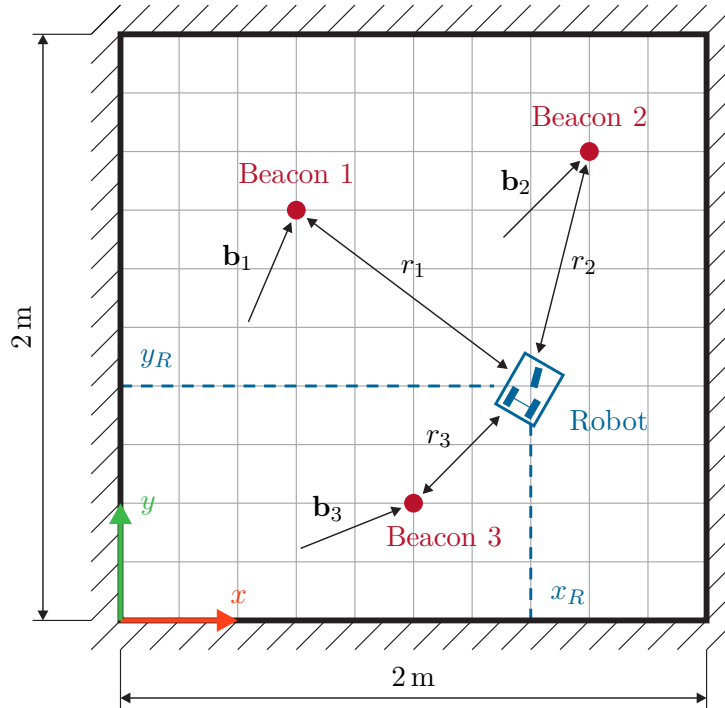
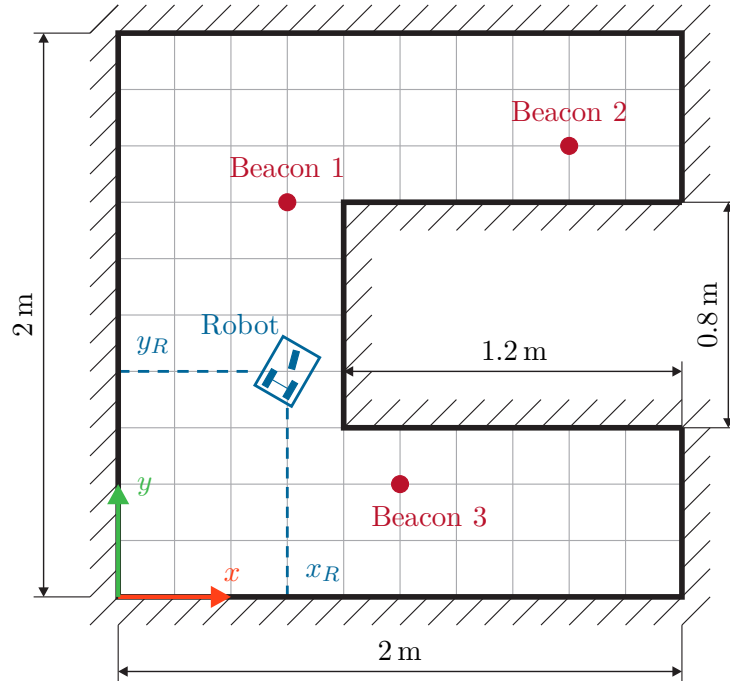

Figure 3.1: A mobile robot in a quadratic enclosure with three beacons for localization.
Figure 3.2: A mobile robot in a non-convex enclosure with possible hidden beacons.
Consider a mobile (differential drive) robot in a quadratic enclosure as shown in Figure 3.1. To perform a meaningful task, the robot needs to be aware of its position  $\mathbf{p} = [x_R \ y_R]^T$  with respect to the global coordinate frame. To this end,  $N$  beacons are placed at the positions  $\mathbf{b}_n = [x_n \ y_n]^T$ ,  $n = 1, \dots, N$ , inside the enclosure. These beacon positions are known by the robot. Each beacon sends out a signal, which allows the robot to determine its distance
For a convex shaped enclosure as in Figure 3.1, it is always guaranteed that all beacons are visible to the robot. For a non-convex enclosure as in Figure 3.2, the set of possible robot locations  $\mathcal{P}$  is non-convex and visibility of all beacons is generally not guaranteed. Essentially, this means that only those distance measurements  $\rho_n$  can be included in (3.2) where the respective beacon is actually visible. Apart from the number of beacons which are necessary for self localization of the robot, the non-convex shape of the enclosure also influences the optimal positioning of beacons. Throughout the subsequent exercises, these difficulties will be treated in more detail.
*Exercise 3.3 (Exercise during the lab).* Design and test an optimization-based estimator for the robot position  $\mathbf{p}$  in the non-convex enclosure shown in Figure 3.2. Proceed as follows:
To ensure an appropriate localization accuracy for every possible robot position  $\mathbf{p} \in \mathcal{P}$ , the actual beacon placement is significantly more critical for the non-convex enclosure in Figure 3.2 than it is for the simple convex enclosure in Figure 3.1. In this regard, it is natural to ask for the optimal beacon placement in this case.